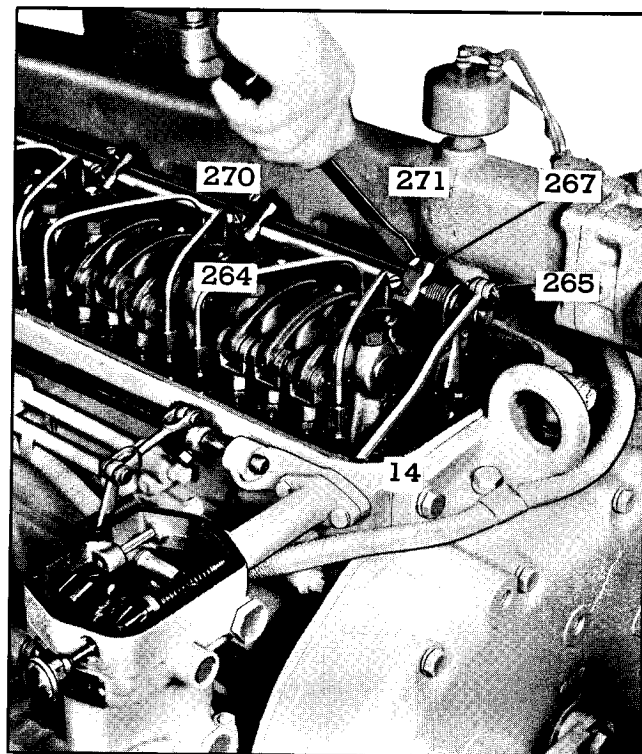

Fig. 2 - Positioning No. 1 Injector Rack Control Lever
1. Remove governor cover. Refer to Fig. 2 and loosen all inner adjusting screws (270) and outer adjusting screws (271). Be sure all control levers (267) are free on the injector control tube.
1. Turn outer adjusting screw (271), Fig. 2, in until a slight movement of the injector control tube lever (265) is observed. Tighten inner adjusting screw (270).